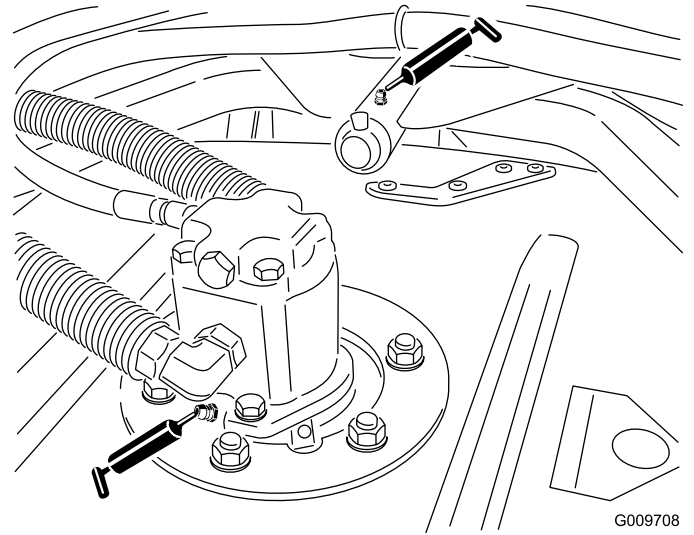

Figure 29
- Cutting unit spindle-shaft bearings (2 per cutting unit) (Figure 29)
- Cutting unit carrier-arm bushings (1 per cutting unit) (Figure 29)